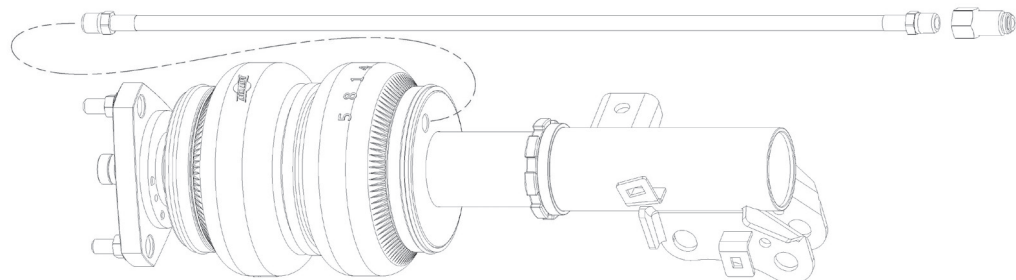

fig. 14
- Begin by installing the leader line into the air spring. Apply thread sealant to the threads of the leader hose. Tighten the appropriate fitting to the air line (one and three-quarter turns beyond hand-tight). Tighten the leader line into the air spring (one and three-quarter turns beyond hand-tight) (fig. 14).